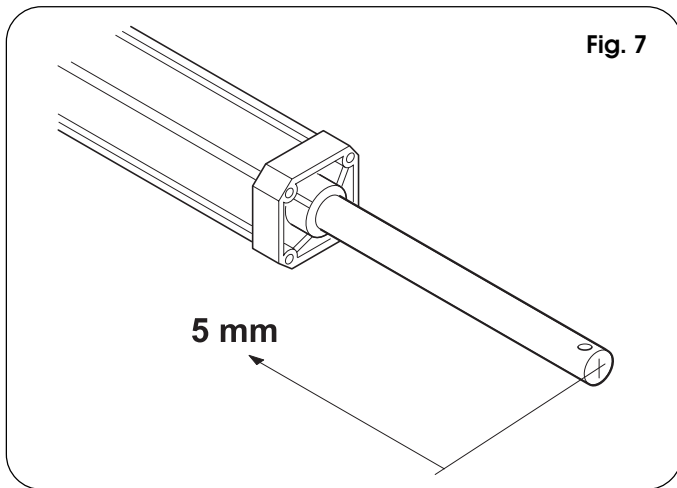

Fig. 7
- 4) Fully remove the rod to its stop point and make it recede by about 5 mm (Fig.7).